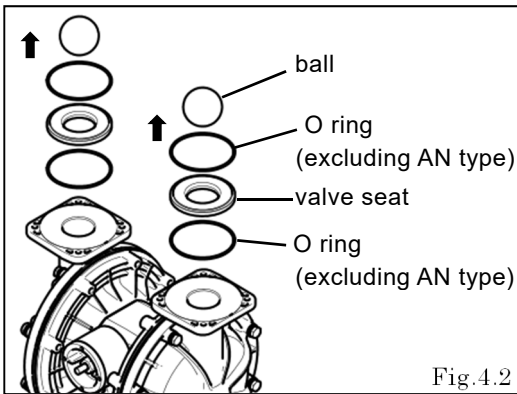

Fig.4.2
- Remove the ball, O ring (excluding AN type) and valve seat. <Fig.4.2>